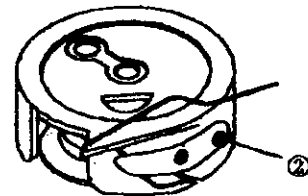

Fig25
- 2) The lower thread tension is affected by the thread type and sewed material, so turn the adjustment screws (2), as shown in fig. 25 to meet the requirement